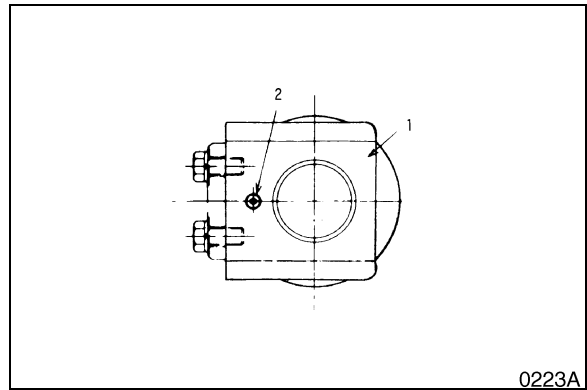

Figure 19
1. Remove plug (2, Figure 19) and drain oil from roller assembly (1).